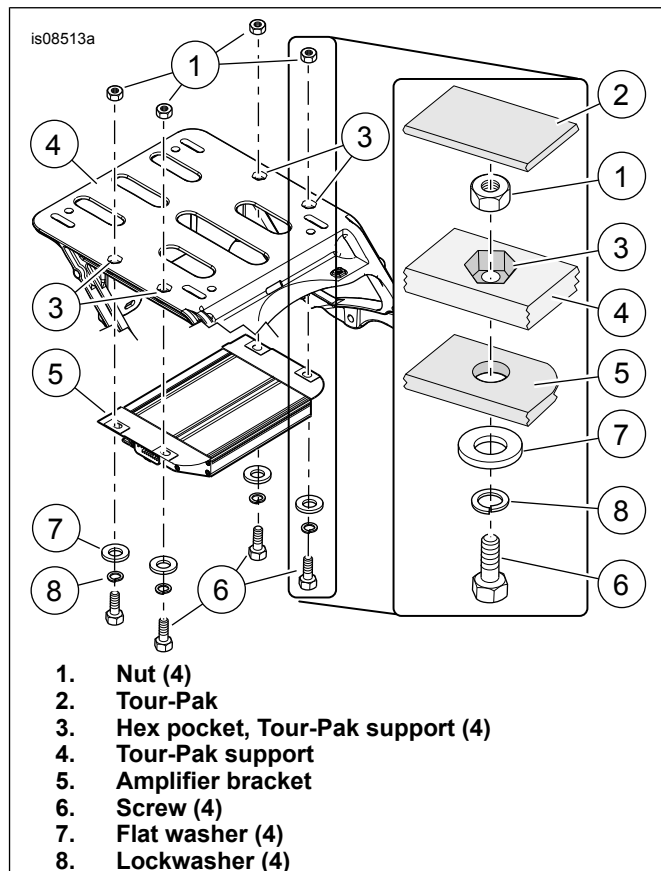

Figure 2. Amplifier Installation
7. See Figure 2. Place hex nuts (1) into hex pockets (3) on the Tour-Pak support (5).
10. Install the amplifier. Secure with flat washers (7), lockwashers (8) and screws (6). Tighten screws to 6.8–8.1 N·m (60–72 **in-lbs**).